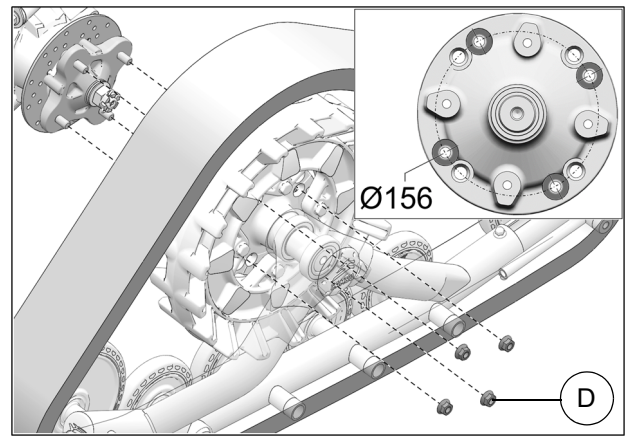

Fig. 20
- Secure undercarriage to front hub using the provided M10 lug nuts (**D**). Use bolt circle  $\varnothing 156\text{mm}$ . Fig. 20